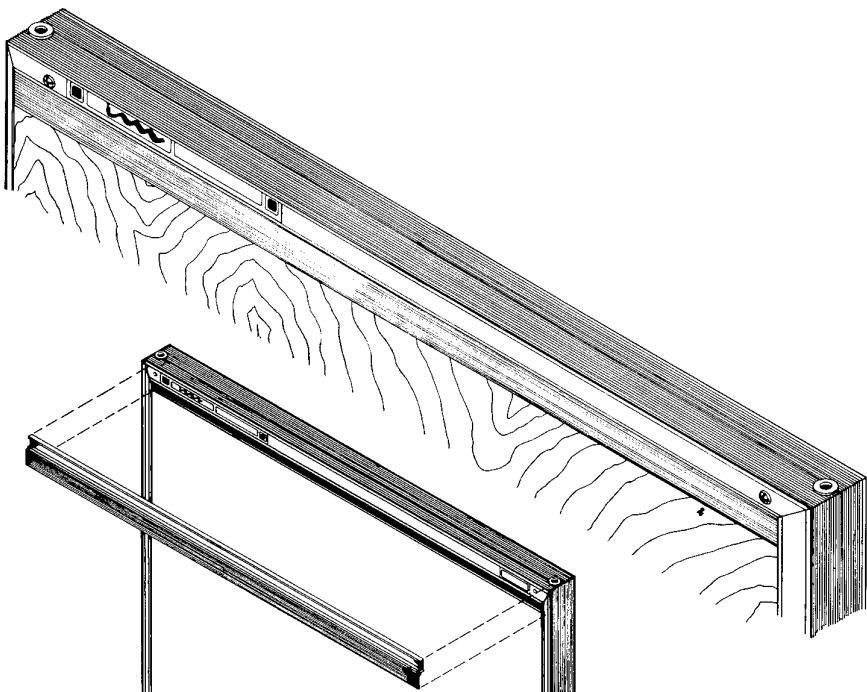

FIGURE 5
1. Fig. 5 shows the top of the door with the wrap around style door moulding in place.